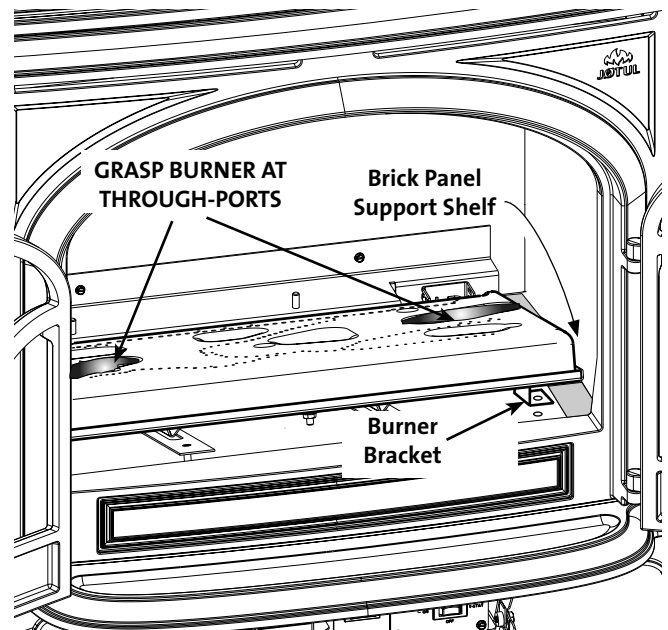

Figure 27. Pull the Burner assembly forward and up to disengage it from firebox.
5. Lift the Brick Panel Support Shelves from the firebox floor to access and remove two #8x 1/2" sheet metal screws that secure the Burner Brackets to the floor. See figs. 27 and 56,
6. Grasp the burner at the large left and right through-ports and pull the assembly up and forward to disengage it from the burner injectors. Tilt the assembly to fit through the door opening. See fig. 27.